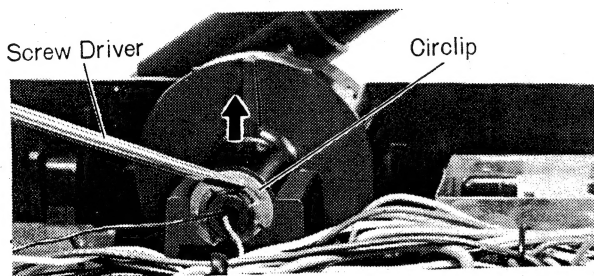

Fig. 17
3. Remove the circlip in the direction of arrow, as shown in fig. 17.